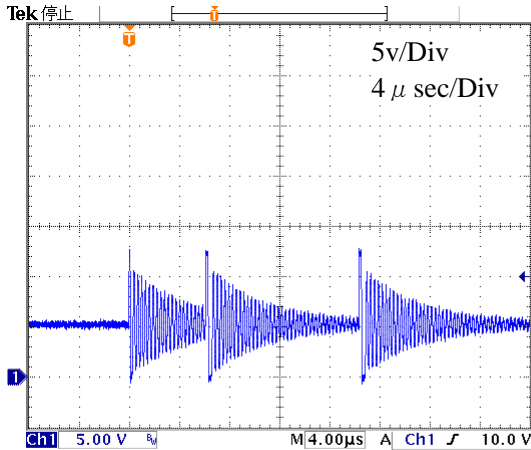
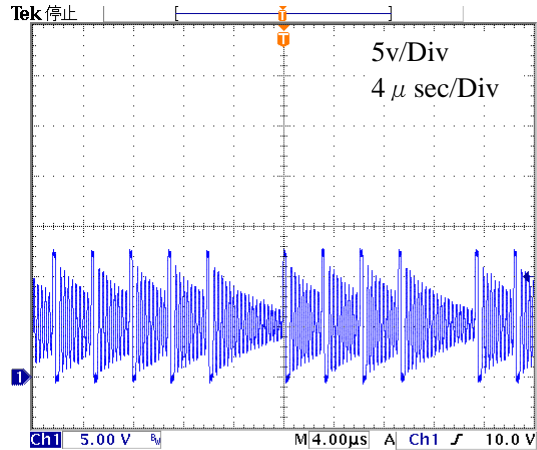
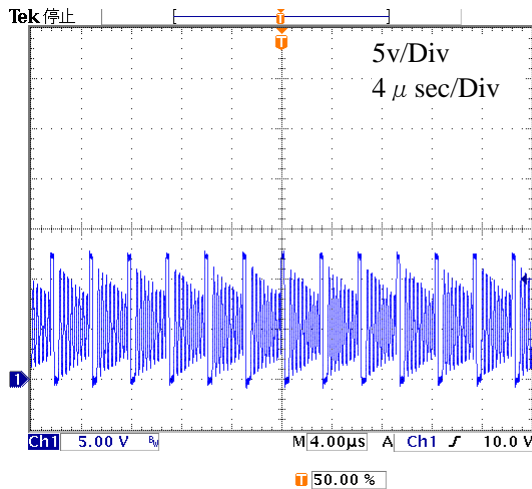
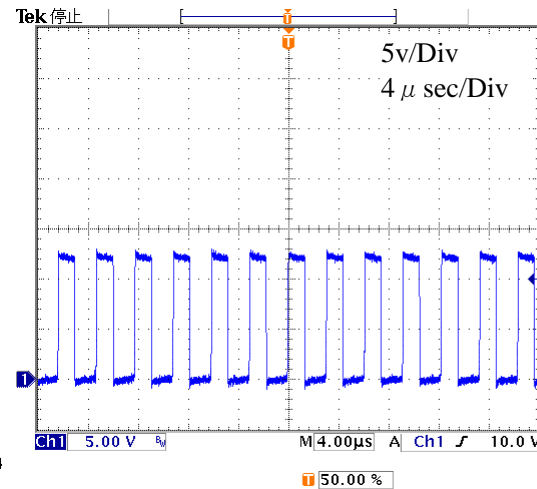

fig.15 $V_{in}=12V$ $V_o=5V$ $L=10\mu H$ $I_o=0.001A$ 14 May 2014 11:28:30
fig.16 $V_{in}=12V$ $V_o=5V$ $L=10\mu H$ $I_o=0.010A$ 14 May 2014 11:32:09
fig.17 $V_{in}=12V$ $V_o=5V$ $L=10\mu H$ $I_o=0.020A$ 14 May 2014 11:34:02
fig.18. $V_{in}=12V$ $V_o=5V$ $L=10\mu H$ $I_o=0.500A$ 14 May 2014 11:36:05
As for the following figure(fig15-fig18), they are the waveform example of the skip mode in the light load condition and continuous switching by frequency=350kHz in the heavy load condition.
*fig15($I_o=1\text{mA}$ skip mode)→fig16($I_o=10\text{mA}$ End of the skip mode)→fig17($I_o=20\text{mA}$ Normal oscillation, discontinuous inductor current)→fig18($I_o=0.5A$ Normal oscillation, continuous inductor current)